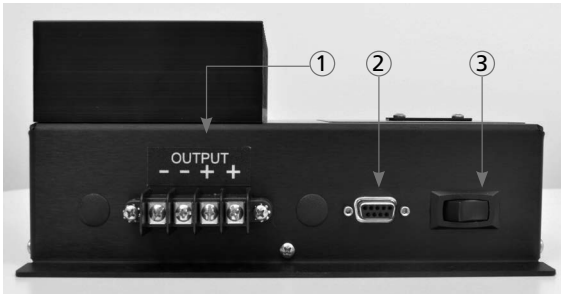
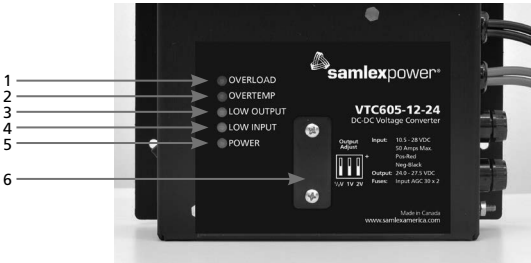
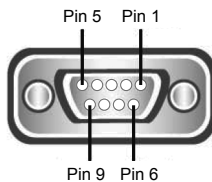
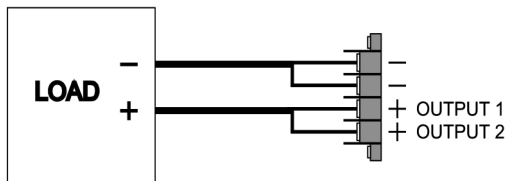

Fig 2.1 Left Side of Chassis
Fig 2.3 Top of Chassis
Fig 3.4 Female DB-9 Connector for Remote Monitoring and On/Off Control
Fig 4.3 Output connection for output current > 25A
To turn the unit ON, press the ON/OFF Rocker Switch (3, Fig. 2.1) to ON position. The alarm buzzer will sound and the Yellow LED "LOW OUTPUT" (3, Fig. 2.3), Yellow LED "LOW INPUT" (4, Fig. 2.3) and Green LED "POWER" (5, Fig. 2.3) will come on together briefly, and then the Green LED "POWER" (5, Fig. 2.3) will continue to be ON. The unit will provide the programmed regulated voltage from no load to the maximum load shown in the specifications section. You may check this voltage at the output terminals of the unit with a good digital voltmeter.
When the ON/OFF Rocker Switch (3, Fig. 2.1) is switched OFF, the Green LED "POWER" (5, Fig. 2.3) will extinguish slowly in around 25 sec under no load condition.
A set of 3 DIP switches has been provided to adjust the output voltage in steps of 0.5V from the default voltage of 24.0V (see Fig. 3.1 below). These DIP switches are located in a pocket covered by a removable cover plate (6, Fig. 2.3).
To adjust the output voltage, turn off the ON/OFF Rocker Switch (3, Fig. 2.1). Remove the plate covering the DIP Switches for output voltage adjustment (6, Fig. 2.3). Reach in with a non-conductive device such as a pencil and position the DIP Switches as shown in Fig. 3.1 below to select the desired output voltage. Replace the plate. Press the ON/OFF Rocker Switch (3, Fig. 2.1) to ON position.
A Single Pole Double Throw (SPDT) Relay "K1" has been provided that will energize when Yellow LED "LOW OUTPUT" (3, Fig 2.3) and Buzzer alarms are switched ON due the output voltage dropping below 90% of the programmed value [Refer to Table 5.1-LED and Buzzer Alerts for Monitoring and Troubleshooting]. The contacts of the Relay are connected to Pins 1 and 6 of the Female DB-9 Connector (Fig 3.4).
- **Normally Open (NO) Condition [Fig 3.3(b)]:** The Shorting Link is placed between the lower 2 pins of J11. This is the default condition. The 2 output contacts 1 and 6 of the DB-9 Connector (Fig 3.4) will be open when the relay is de-energized and close when the relay is energized
- **Normally Closed (NC) Condition [Fig 3.3(a)]:** The Shorting Link is placed between the upper 2 pins of J11. In this condition, the 2 output contacts 1 and 6 of the DB-9 Connector (Fig 3.4) will be closed when the relay is de-energized and open when the relay is energized.
2. Turn the Power ON/OFF Switch (3, Fig 2.1) to ON position to discharge the internal storage capacitors
6. Make sure that the Power ON/Off Switch (3, Fig 2.1) is OFF and then reconnect the DC input power
7. Turn the Power ON/Off Switch (3, Fig 2.1) to ON position and confirm that contacts 1 and 6 of DB-9 Connector (Fig 3.4) are open
A Female DB-9, 9-Pin Connector (Fig 3.4) has been provided for remote monitoring and ON/OFF control. This is located on the left side of the unit (2, Fig 2.1). Pinout (Function of each pin) is shown in Fig 3.5.
An optional Remote Control Panel Model RCP1-VTL (Fig 3.6) may be connected to the voltage converter using the 9-pin, Female DB9 Connector (Fig 3.4) located on the left side of the voltage converter (2, Fig 2.1). The remote control panel allows the unit to be operated remotely as well as duplicating all the diagnostic indicators and audible alarm.
Two Positive output terminals and two Negative output terminals are provided (See 1, Fig 2.1 and Fig 4.3). Connect only one wire to each terminal. Ensure that the total average load connected does not exceed the continuous current rating of the unit.
Each output terminal is rated for 25 Amps, so do not connect more than 25 Amps of load on either output terminal. If the load exceeds 25 Amps but is less than the continuous rated output of the unit, the output terminals must be connected to the load in parallel ensuring that the wiring used has sufficient capacity to handle the current (see Fig 4.3).